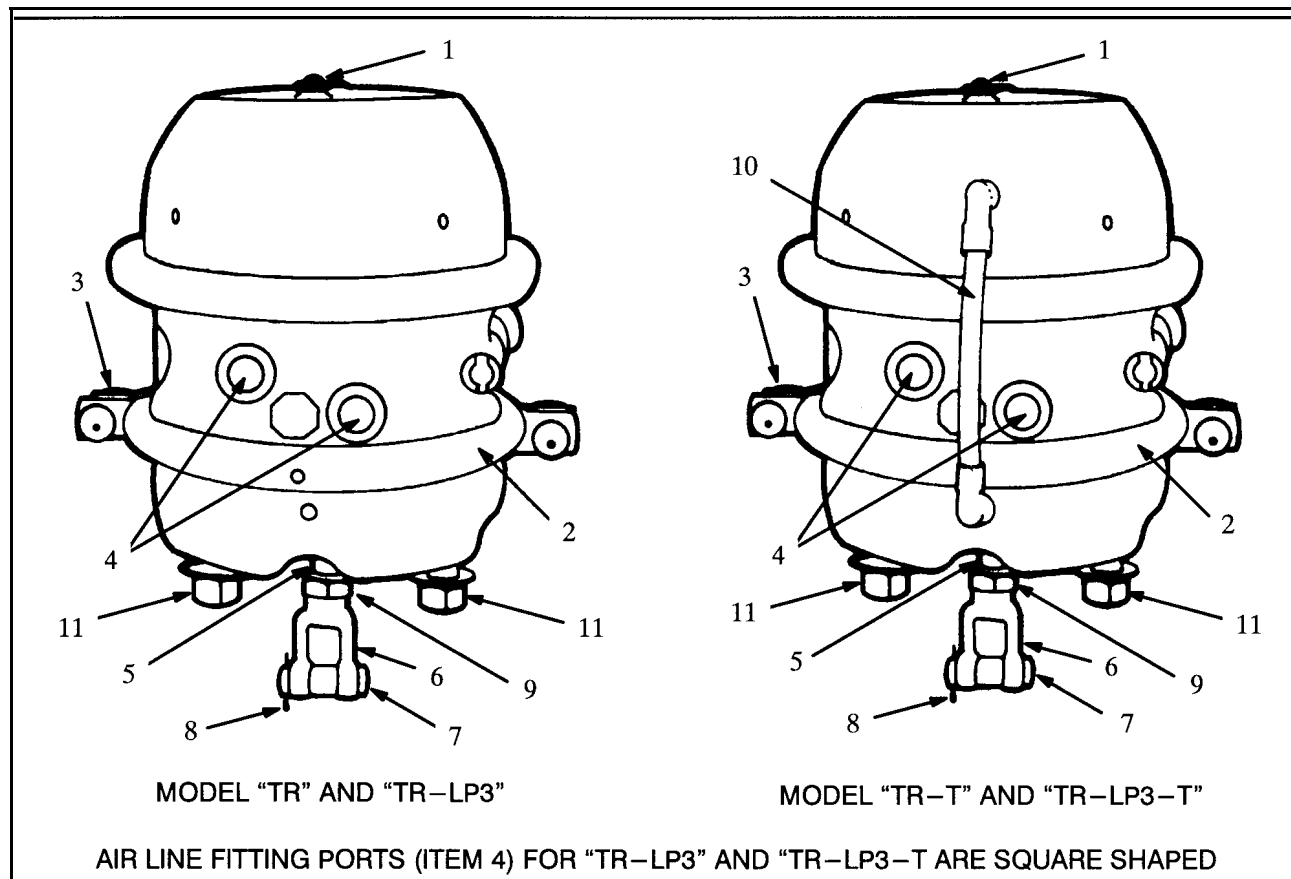
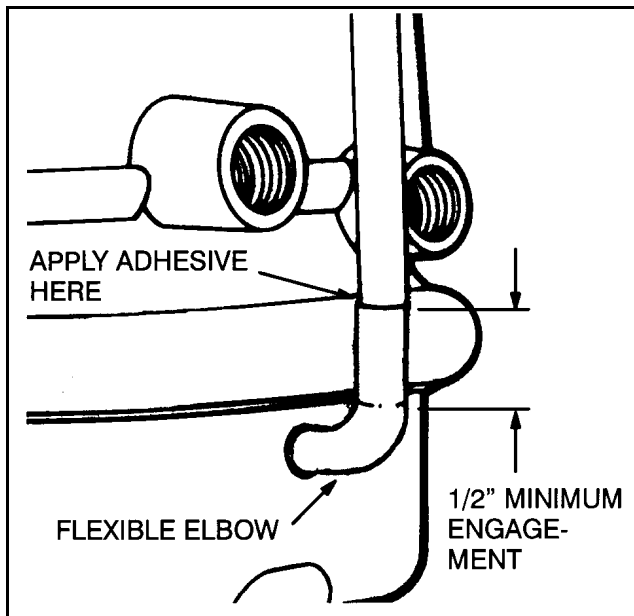
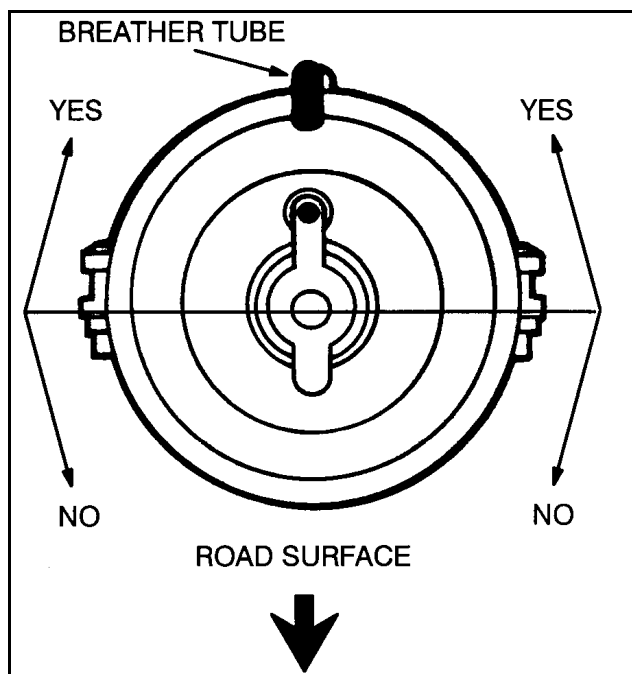

Figure 1 MGM Service and Spring Brake
Figure 7 Install Breather Tube (If Equipped)
Figure 8 Position Breather Tube
The double diaphragm spring brake chamber assembly (Figure 1(See Figure 1, page 1)) consists of a tandem-type cylinder assembly connected to the foundation brake group through the air brake slack adjuster.
2. Inspect SERVICE BRAKE CLAMP RING (Item 2, Figure 1(See Figure 1, page 1)) to be sure it is securely in place and damage free. If any damage is seen or suspected, cautiously remove and replace the complete double diaphragm spring brake assembly.
3. Check to ensure the MOUNTING STUD HEX NUTS (Item 11, Figure 1(See Figure 1, page 1)) are tightened to **100 to 115 ft-lbs. (136 to 156 N•m) torque** and washers are in place between the nut and the bracket.
4. Inspect air lines, hoses and fittings (Item 4, Figure 1(See Figure 1, page 1)) attached to chamber. Replace any damaged or leaking parts. **Tighten fittings to 25 ft-lbs. (34 N•m) torque into the chamber air inlet ports.**
5. Inspect the PISTON ROD (Item 5, Figure 1(See Figure 1, page 1)) to be sure it is working free, not bent, not binding and is square to the chamber bottom with $\pm 3^\circ$ in any direction at any point in the stroke of the chamber. If the PISTON ROD is not square, make corrections by repositioning the chamber on the mounting bracket and/or by shimming the slack adjuster to the right or left on the camshaft as required.
6. Inspect the YOKE ASSEMBLY (Item 6, Figure 1(See Figure 1, page 1)) being sure YOKE PIN (Item 7, Figure 1(See Figure 1, page 1)) is installed and locked into place with a COTTER PIN (Item 8, Figure 1(See Figure 1, page 1)). Replace any damaged, worn or missing parts. **Tighten the YOKE LOCKNUT (Item 9, Figure 1(See Figure 1, page 1)) to 25 to 35 ft-lbs. (34 to 47 N•m) torque.** On units equipped with a DUST BOOT, check the BOOT for damage and replace as necessary.
7. On units equipped with an external BREATHER TUBE (Item 10, Figure 1(See Figure 1, page 1)), be sure both ends of the connector tube are engaged a minimum of 1/2 inch into each of the flexible elbows (Figure 7(See Figure 7, page 6)). The tube must be glued to both of the elbows with a high quality rubber adhesive. These units must be mounted with the BREATHER TUBE in the upper half of the non-pressure chamber facing away from the road surface (Figure 8(See Figure 8, page 7)).
CAUTION – When installing any MGM MODEL “TR-T” and “TR-LP3-T” chamber, it is mandatory to position the non-pressure chamber end of the breather tube in upper half of chamber facing away from the road surface (Figure 8(See Figure 8, page 7)). Failure to comply will void the warranty on these models.
IMPORTANT – If chamber is fitted with an external breather tube, be sure both ends of the connector tube are engaged a minimum of 1/2 inch into each of the flexible elbows (Figure 7(See Figure 7, page 6)). The tube must be glued to both of the elbows with a high quality rubber adhesive. These units must be mounted with the BREATHER TUBE in the upper half of the non-pressure chamber facing away from the road surface (Figure 8(See Figure 8, page 7)). Failure to comply with these installation instructions will void any warranty.